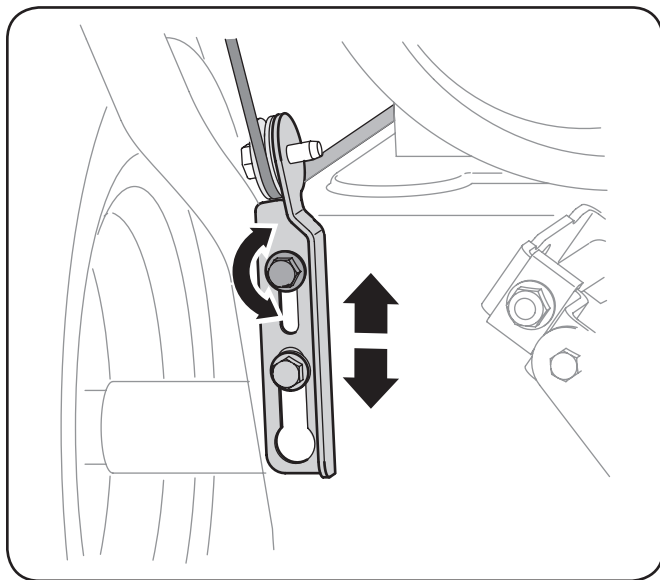

Figure 3-18
4. Allow the auger to remain engaged for approximately ten (10) seconds before releasing the auger control. Repeat this several times.
7. To readjust the control cable, loosen the upper hex screw on the auger cable bracket. See Figure 3-18.